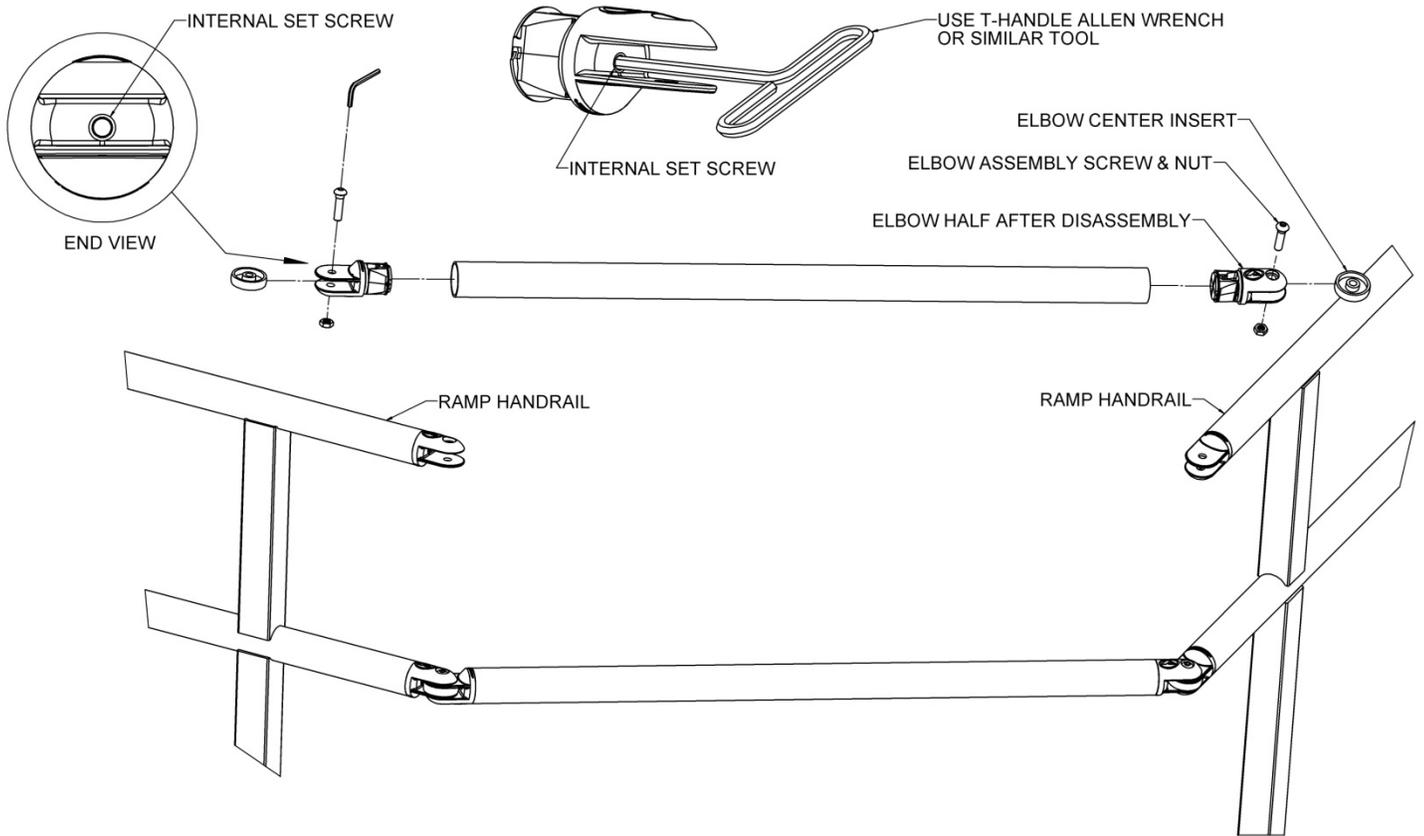

FIG. 6.3
- 6.1.5. Disassemble adjustable elbow by removing the screw and nut (FIG. 6.3).
- 6.1.6. Install an elbow half into each end of the cut tube (FIG. 6.3).
- 6.1.7. Tighten internal set screws a T-handle Allen wrench or similar tool (FIG. 6.3).